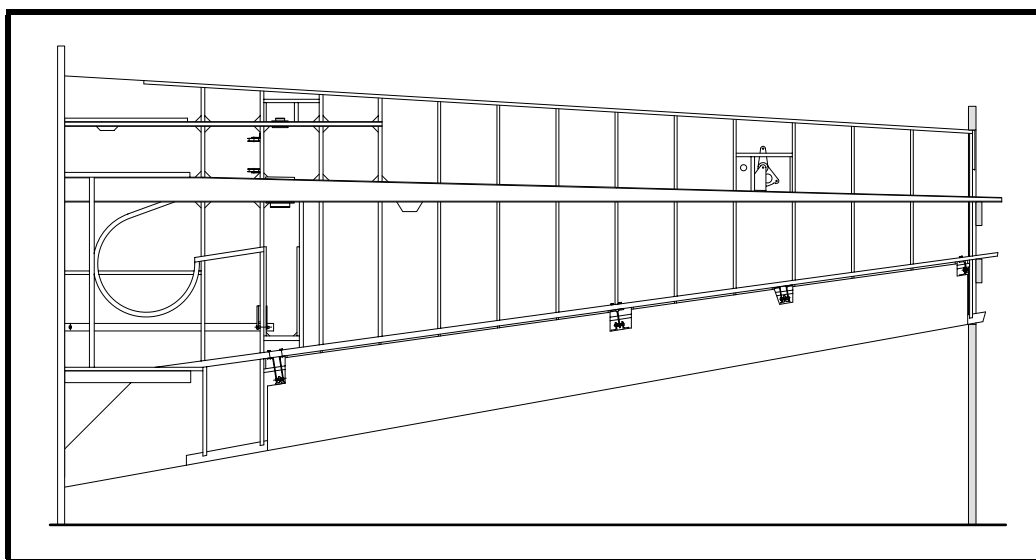

Figure 30
- ❑ On the bottom of the wing, install the 20x20 spruce strip between Sta. 1 and 2 which forms the aft lower end of the opening for the landing gear. See Figure 30—for clarity all framing on the upper side of the wing has been eliminated from this illustration.
- ❑ On the bottom of the wing, install the framing for the access panel between Sta. 2 and 2-1/2. See Figure 30. The piece at the aft end of the bay is 10x20 spruce and its forward face should be located 80mm forward of the aft face of the aft wing spar. This will make things work out right for the flap hinge fairing—see Drawing No. 814. The other framing for the access panel are 10x10 spruce strips which follow the lower wing contour and then up on the inboard face of the Sta. 2-1/2 rib and the outboard face of the Sta. 2 rib to the 10x40